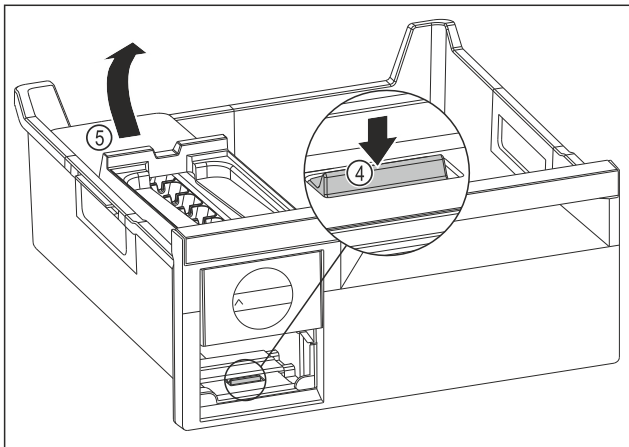

Fig. 68
- ▶ Removing the EasyTwist-Ice body: Use your finger to push the tab Fig. 68 (4) down and use your other hand to lift the EasyTwist-Ice body Fig. 68 (5) from behind at the same time.